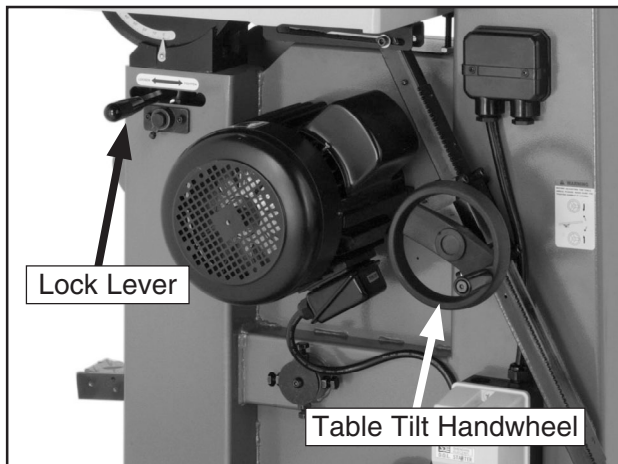

Figure 52. Table tilt controls.
2. Loosen the table tilt lock lever shown in **Figure 52**.
3. To tilt the table to the right, turn the table tilt handwheel clockwise (**Figure 52**).